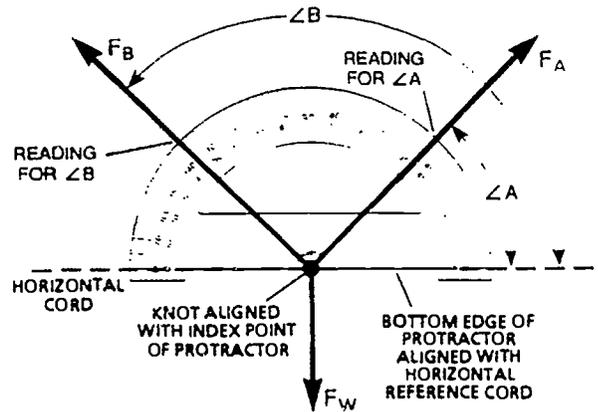

Fig. 3 Measuring angles with a protractor.
10. You are now going to use your protractor to measure angles made by the cords. Study Figure 3 before you proceed. Notice that the index point of the protractor must be at the center of the knot, and that the horizontal reference cord must be along the bottom edge of the protractor.
11. Align the protractor carefully—with the knot and the horizontal reference line—as shown in Figure 3. (The horizontal cord should be along the 0° indicators on the protractor.) Holding the protractor steady, read and jot down the angle where the cord attached to spring scale A crosses the protractor. Call this $\angle A$. Without moving the protractor, read and jot down the angle
12. Record $\angle A$ and $\angle B$ in column 2 of the Data Table. Notice that $\angle A$ is the angle that force F_A makes with the horizontal reference cord. And $\angle B$ is the angle that force F_B makes with the same reference line. From Figure 3, you can see that the angle between F_A and F_B is just $\angle B - \angle A$. Call this difference $\angle AB$ and record the value in the Data Table.